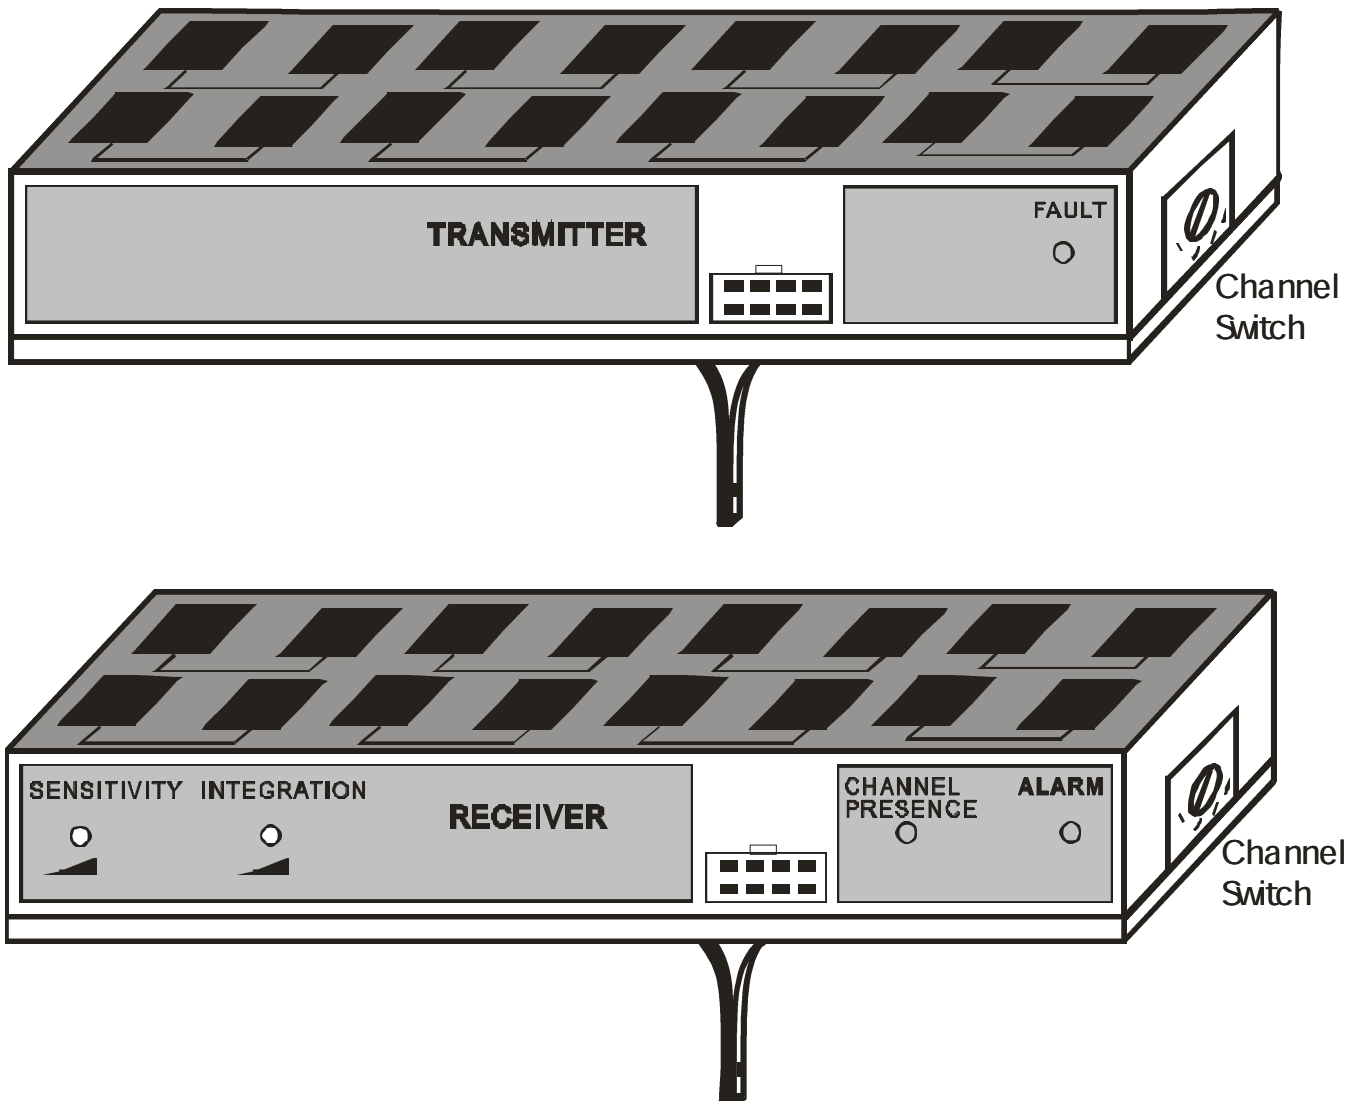

Fig. 3
- The red LED on the RF Tx module is the sole light indication and is distinguished by the term "FAULTY" (fig.3). The LED lights up when the RF or BF oscillator is not working properly.
- 3.2.3** – Press the test selection key “ \uparrow ” (10) till the battery voltage test LED “**+13,8V**” (4) lights up. The voltage read on display (2) must be 13.8 Vdc + 10%. If the equipment sight pointing has been properly carried out the “CHANNEL PRESENCE” LED (acknowledging the channel) should light up on the RF RX module (fig. 3). In order to optimise the link proceed to electronically point in the following manner:
3.2.14 – Press key “↑↓” (10) till the Sensitivity Measurement LED “**sens Rx/Tx**” (6) lights up. Operate on the “SENSITIVITY” trimmer present in module RF RX (fig. 3) till a value within 0 and 9 Vdc is read on the display. Note that the value of 0 Vdc corresponds to the maximum sensitivity, and that value 9 Vdc corresponds to the minimum sensitivity.
3.2.15. –Adjust the “INTEGRATION” trimmer on module RFRX (fig. 3) till obtaining the required integration.